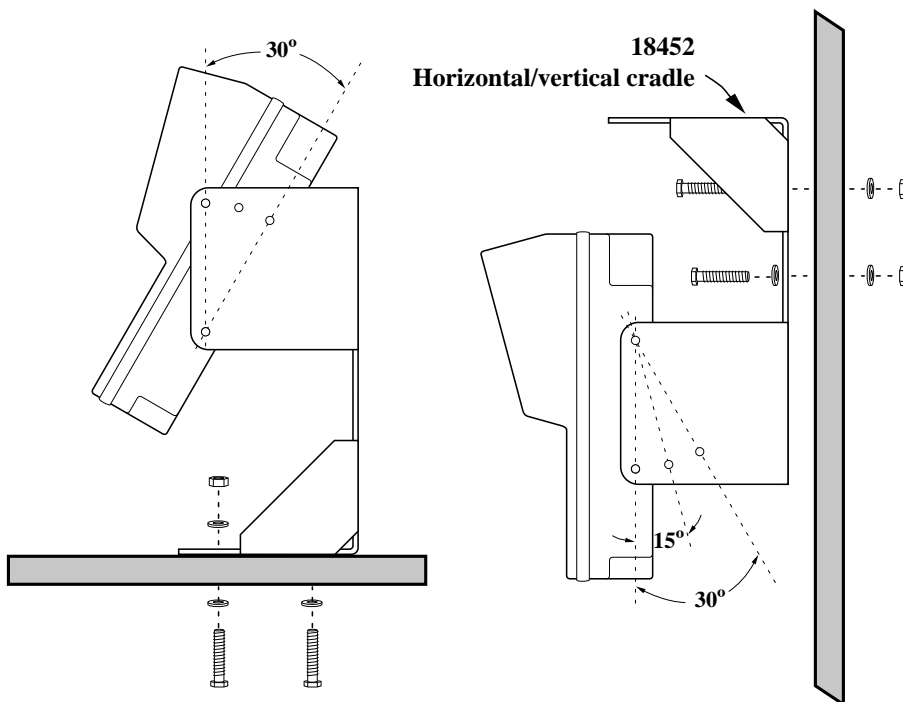

Figure 2.2 The Horizontal/Vertical Mounting Cradle
1. Using the horizontal/vertical mounting cradle. (Refer to Figure 2.2.)